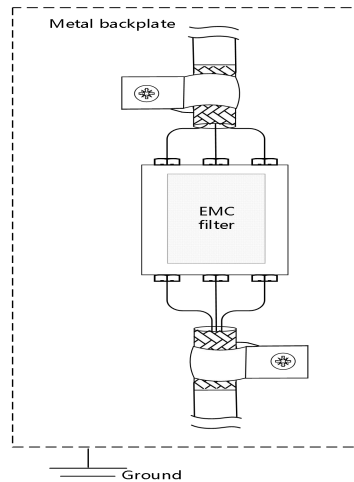

Figure 3-8 EMC noise filter installation diagram
- The overload characteristic curve shown in Figure 3-8 applies to all iSMK series models.